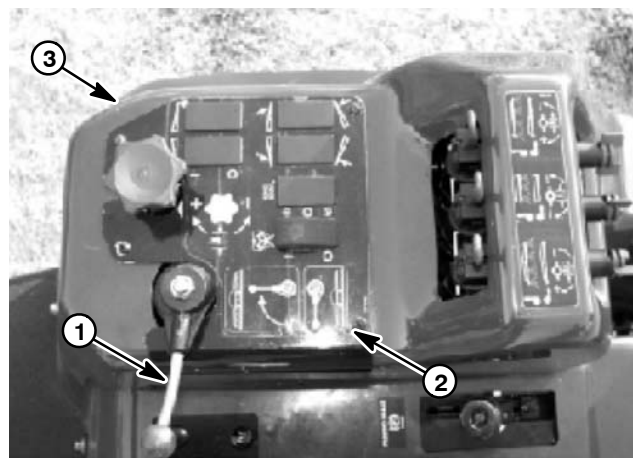

Figure 24
2. Remove master boom valve handle, spray control panel, and spray console from machine (Fig. 24).
3. Install spray console, spray control panel, and master boom valve handle to machine (Fig. 24).